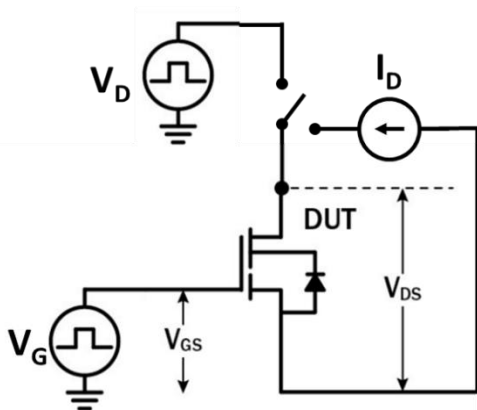

Figure 19. Dynamic $R_{DS(on)eff}$ Test Circuit
f. Dynamic on-resistance; see Figures 19 and 20 for test circuit and conditions